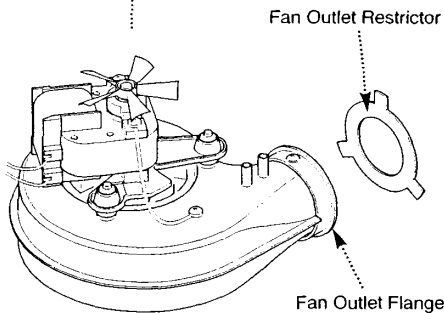

Fig. 19
4. Fit the restrictor to the fan outlet flange, bending the 3 lugs equally ensuring the restrictor seals against the fan outlet flange (Fig. 19).